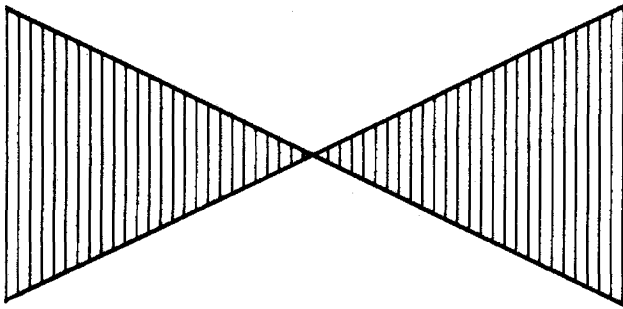

Figure 6-9.
- Reset CARRIER LEVEL for the waveform shown in Fig. 6-9 (double sideband, suppressed carrier).